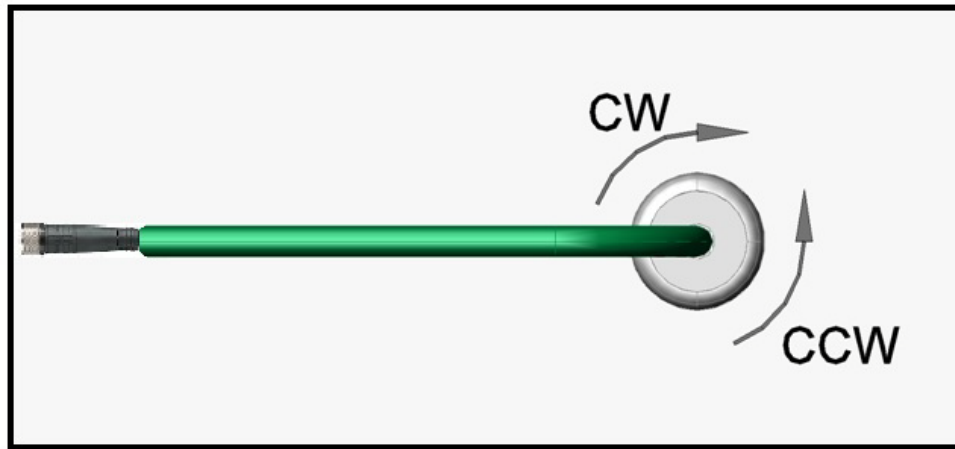

FIGURE 14 - MOTOR ROTATION DIRECTION CONVENTION
The *ConveyLinx-Ai* module uses a Clock-Wise (CW) and Counter Clock-Wise (CCW) motor rotation definition. The reference for this distinction is based upon viewing the MDR from the cable exit end of the roller as depicted below in Figure 14.